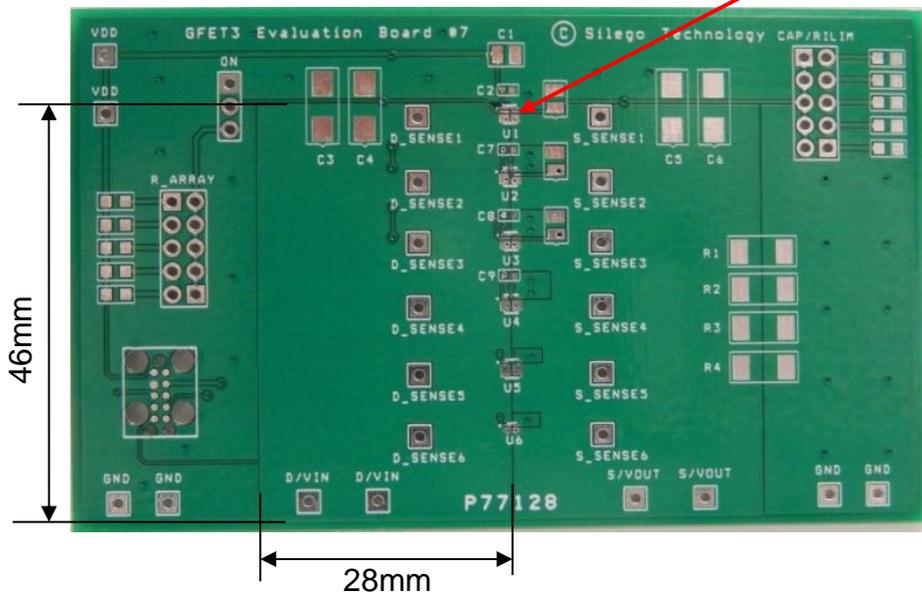

Figure 3. SLG59M1720V Evaluation Test Board
2.3. The D/VIN and S/VOUT pins carry significant current. Please note how the D/VIN and S/VOUT pads are placed directly on the power planes in Figure 3, which minimizes the RDS (ON) associated with long, narrow traces. The D/VIN, S/VOUT and GND pins dissipate most of the heat generated during high-load current condition. The layout shown in Figure 3 is illustrating a proper solution for heat to transfer as efficiently as possible out of the device.